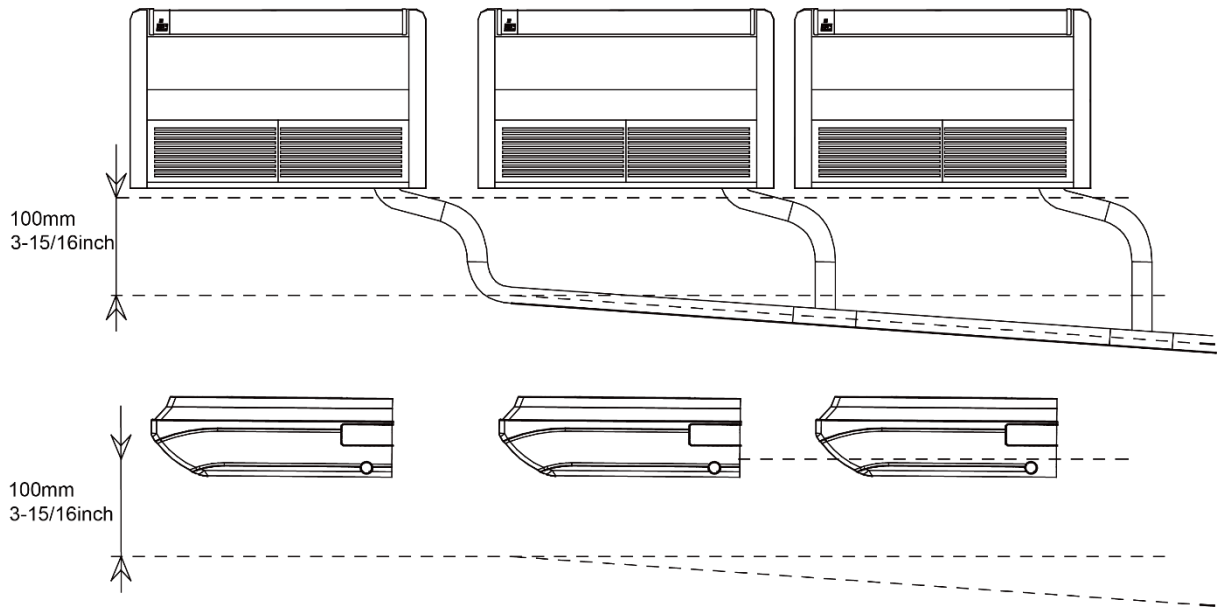

Fig.4.3.2.1
- (1) Drainage pipe should have the same diameter or larger diameter than the connection pipes (PVC pipe, outside diameter 17mm (11/16in.), thickness \geq 1.75mm (1/16in.)).
- (2) Keep drainage pipe short and sloping downwards at a gradient of at least 1% for preventing forming air bubbles.
- (3) Insert the drainage hose into drain socket, tighten the metal clamp securely.
- (4) Warp the sealing pad over drain hose and metal clamp for heat insulation.
- (5) make sure to perform insulation work for all drainage piping in order to prevent any possible water drop due to dew condensation.
- (6) Apply the suitable diameter for converging drainage pipe according to the operating capacity of the unit, as show in Fig. 4.3.2.1.